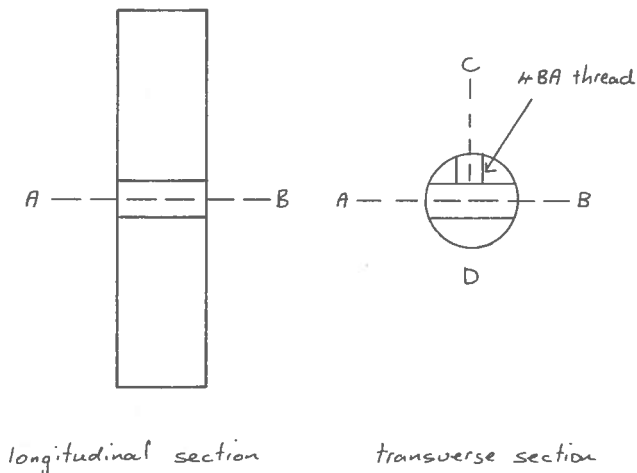

Fig.2 - Preparation of rod
The rod is cut to a length of 5 cm and a hole (AB) (Fig.2) is drilled transversely through the centre of the rod. The diameter of this hole should be large enough to allow the passage of the screwdriver blade. A second hole (CD) of diameter 3 mm is drilled at right angles to AB to meet the first hole in the centre of the rod. Hole CD is threaded with a 4 BA tap.